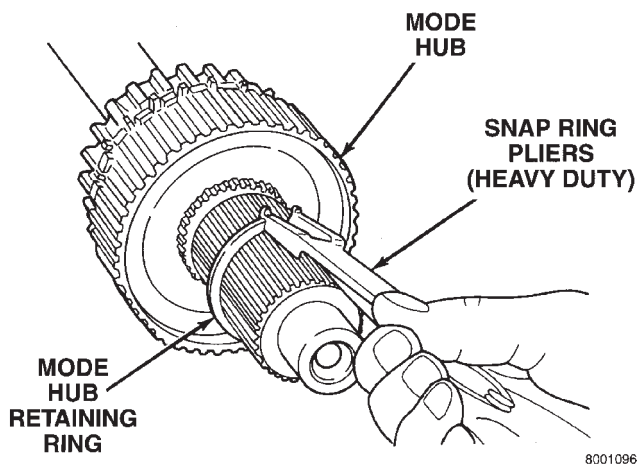

Fig. 28 Mode Hub Retaining Ring Removal
- (1) Remove mode hub retaining ring with heavy duty snap-ring pliers (Fig. 28).